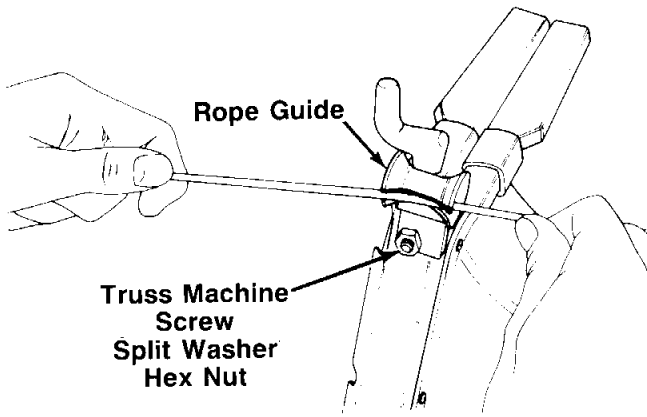

FIGURE 13.
4. Slip the starter rope into the rope guide as shown in figure 13.